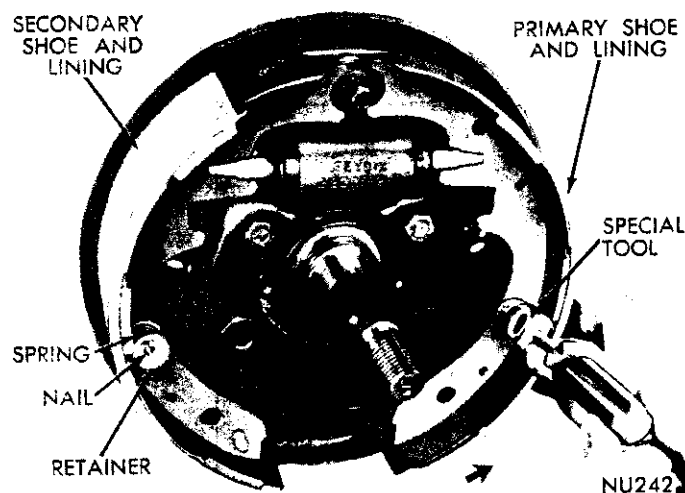

Fig. 5—Removing or Installing Shoe Retainers, Springs and Nails (Right Front)
(4) Remove brake shoe retainers, springs and nails, using Tool C-4070, (Fig. 5).
(5) Disengage primary and secondary shoes from push rods (if so equipped) and remove from support. Remove adjusting star wheel assembly from shoes.
(6) Using Tool C-4070, install shoe retaining nails, springs and retainers. (Fig. 5).
(7) Install anchor plate over anchor.
(8) Slide "eye" of adjusting cable over anchor and against anchor plate. Engage end of primary shoe return spring in shoe web and install other end over anchor, using Tool C-3785.